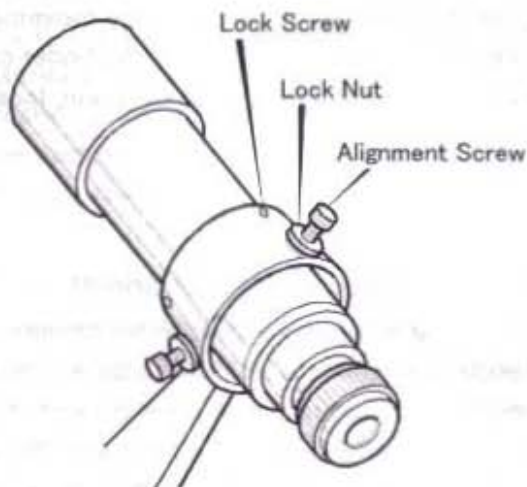

Fig. 12
2. In order to move the crosshair in the direction of the arrow, first loosen screw (a) and tighten (push) the finder with screw (c). This procedure will move the crosshair in the desired direction. The top of the finder will move in the opposite direction and the object will move in the direction of the smaller arrow. Refer to Fig.12,13.